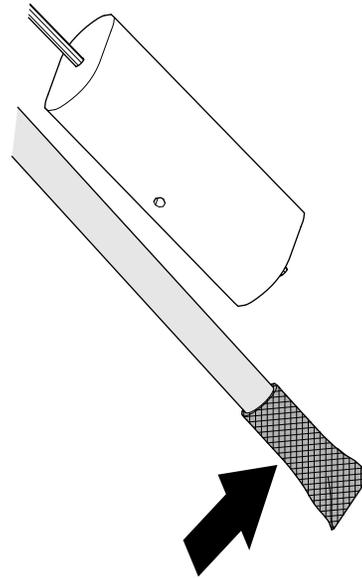

Figure 86
1. Clean the screen at the end of the fuel pick-up tube (Figure 86).